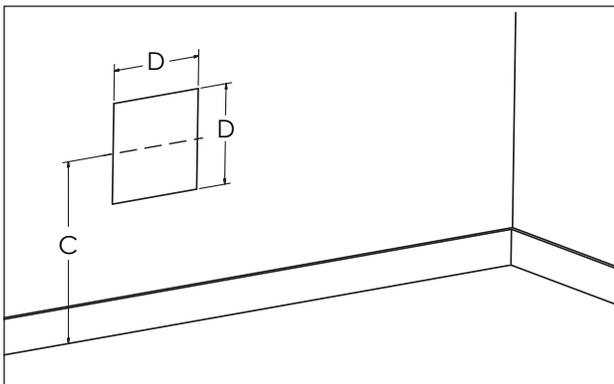

Figure 11
2. Draw the position of the hole for the air-vent intake pipe, taking into account the minimum clearances mentioned in Figure 6. See the dimensions of the square hole "D" and height to the center "C" in Table 1 and Figure 11 for the different models. Height "C" is the minimum recommended.